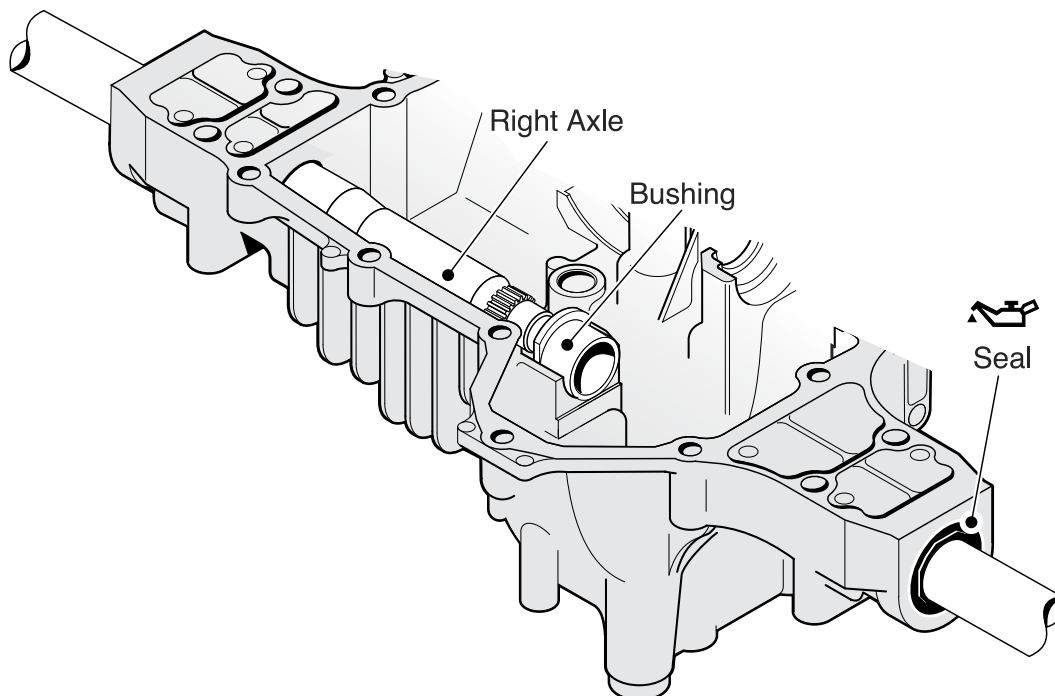

Fig. 39, Axle Bushing Assembly
1. Place new Seals onto Left and Right Axle Shafts. (Fig. 39)
Install Bushings with the flat surfaces perpendicular to the surface of the Upper Case. (Fig. 39)